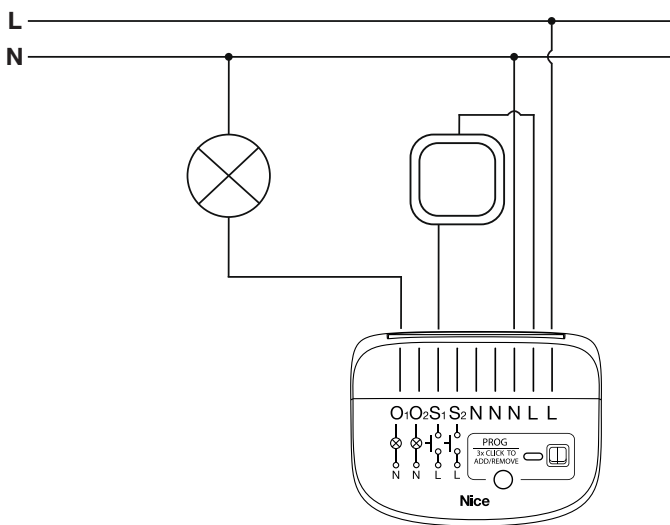
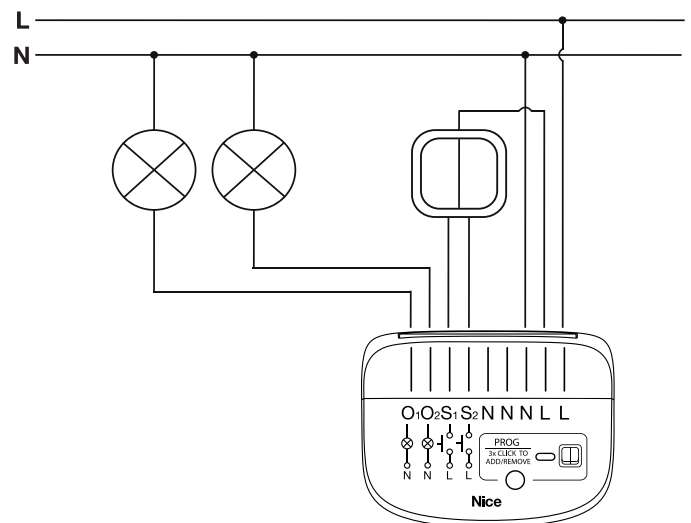

Figure 1: Single wall switch
Figure 2: Double wall switch
3. Connect the device in accordance with with one of the following diagrams presented on page 4 (fig.1) Single wall switch, (fig.2) Double wall switch.